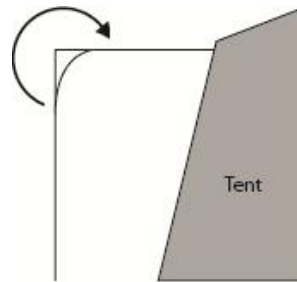

Fig. 1
- **To Roll Away:** Initially, it is best to roll the canopy away along the top as this ensures the guylines and webbing straps are rolled away neatly (fig. 1).